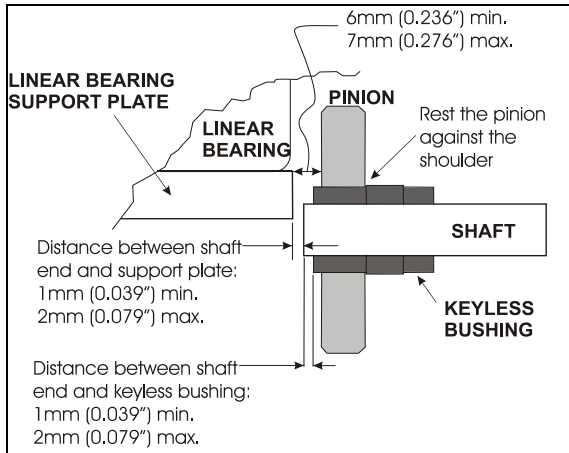

FIGURE 11 : PINION AND KEYLESS BUSHING POSITIONING
3. Properly position the shaft end in relation to the linear bearing support plate (See FIGURE 11) and then tighten the locking collars to maintain the shaft in that position.
4. Position pinion and keyless bushing as shown on FIGURE 11 and tighten the keyless bushing as described in section 5.4.